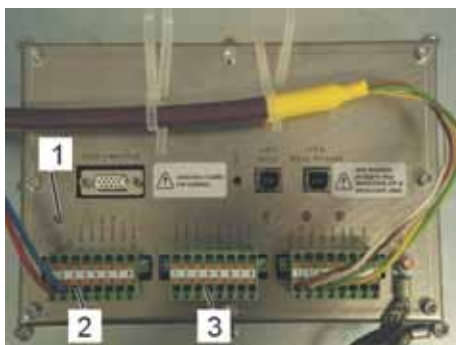

Fig. 99: Indication unit
1. Check if the LED (Fig. 99/1) on the back of the Indication unit is lighting.
2. If the LED is off measure the voltage at the connectors X11 (Fig. 99/2) and X12 (Fig. 99/3).